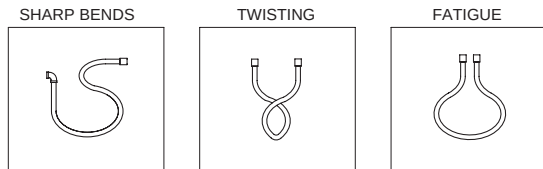

FIGURE 5-14
3. 3/8 in. schedule 40 pipe will need to be run from the hose connection to the distribution nozzle(s) installed/affixed to the appliance. Pipe must be installed and adequately secured at a height at or below the cooking surface of the appliance. (See Figure 5-14.)
3. The Agent Distribution Hose should always be in a vertical natural loop, never having any bends greater than a 3 in. (76 mm) radius (6 in. (152 mm) diameter), hose twists, or sharp bends. (See Figure 5-14.) If any of these conditions exist, the hose and/or hose connections will require installation modifications.